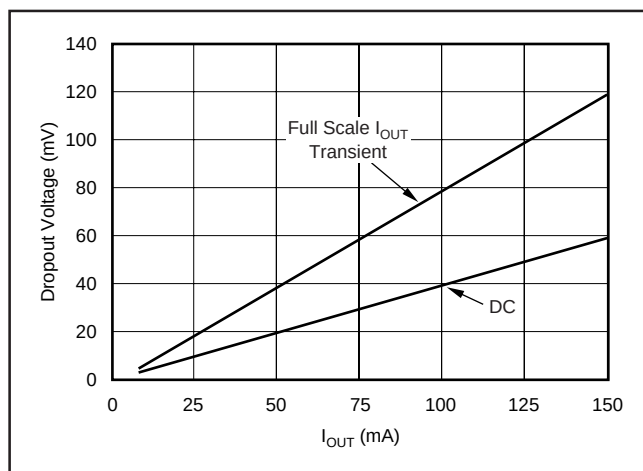

FIGURE 6. Transient and DC Dropout.
The REG101 uses an N-channel DMOS as the “pass” element. When the input voltage is within a few tens of millivolts of the output voltage, the DMOS device behaves like a resistor. Therefore, for low values of  $V_{IN}$  to  $V_{OUT}$ , the regulator’s input-to-output resistance is the  $R_{DS_{ON}}$  of the DMOS pass element (typically 600m $\Omega$ ). For static (DC) loads, the REG101 will typically maintain regulation down to  $V_{IN}$  to  $V_{OUT}$  voltage drop of 60mV at full rated output current. In Figure 6, the bottom line (DC dropout) shows the minimum  $V_{IN}$  to  $V_{OUT}$  voltage drop required to prevent drop-out under DC load conditions.
For large step changes in load current, the REG101 requires a larger voltage drop across it to avoid degraded transient response. The boundary of this “transient drop-out” region is shown as the top line in Figure 6. Values of  $V_{IN}$  to  $V_{OUT}$  voltage drop above this line insure normal transient response.